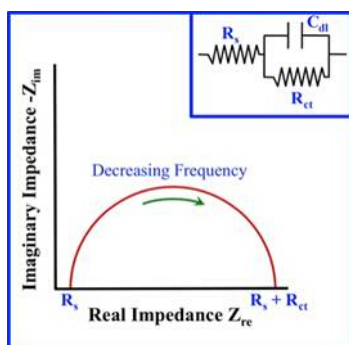

Figure 2: Image of a simple Nyquist Plot and its equivalent Randle cell model.
One of the simplest Nyquist plots is that of a semi-circle which can be seen in Figure 2. The plot in Figure 2 is represented by a resistor in series followed by a resistor and capacitor in parallel-- this is known as equivalent circuit modeling. Different physical processes correspond to elements in the circuit model; for example, an electrical double layer corresponds to a capacitor. In Figure 2, a Nyquist plot is shown that is best modeled by a Randle cell. This is a common starting place for the interpretation of a Nyquist plot. After the Nyquist plot is complete, the software will present you with equivalent circuit models you can choose from to model your data. If the Nyquist plot does not have a good fit from the computer-
3. Open the Zview software to view the results. Select z' and z'' to plot. The results will be shown on the negative axis-to show them on the positive axis, multiply by -1. Click "measure" then "sweep" to get the measured z' and z'' values. Compare these measured values to the expected values found on the front of the test module, as seen in **Figure 2**. If the values match, continue to step 4. If not, check all the wiring and equipment to see that everything is connected and functioning properly.